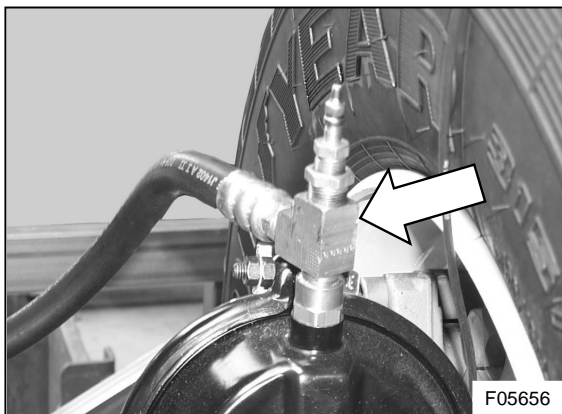

Figure 9: Hose to brake chamber connection
- 5) Undo the hose at the brake chamber tee connector(see Figure 9) with one wrench while holding the tee body steady with a second wrench.